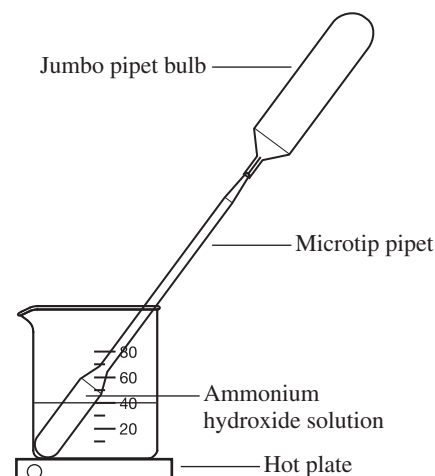

Figure 1.
6. Place the microtip pipet and the jumbo pipet bulb “assembly” into the hot water bath (Figure 1). Observe the vigorous bubbling of the ammonium hydroxide solution—warming the solution releases ammonia gas.